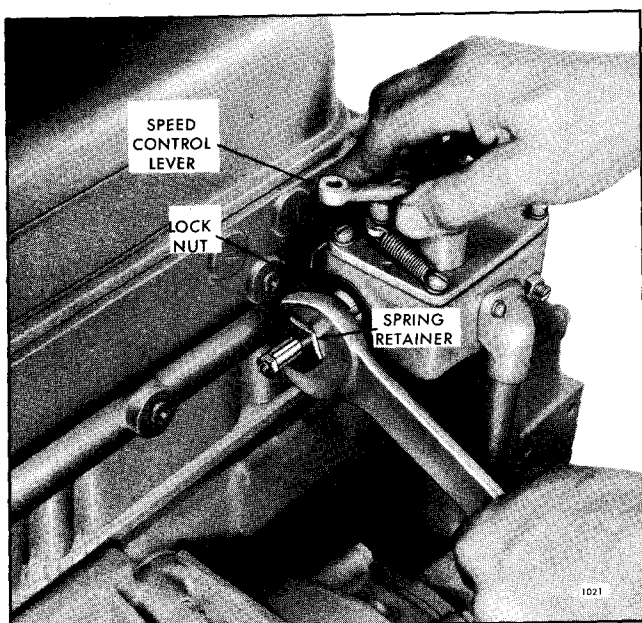

Fig. 7 - Adjusting Maximum No-Load Speed
1. Loosen the spring retainer locknut and back off the high-speed spring retainer approximately five turns (Fig. 7).